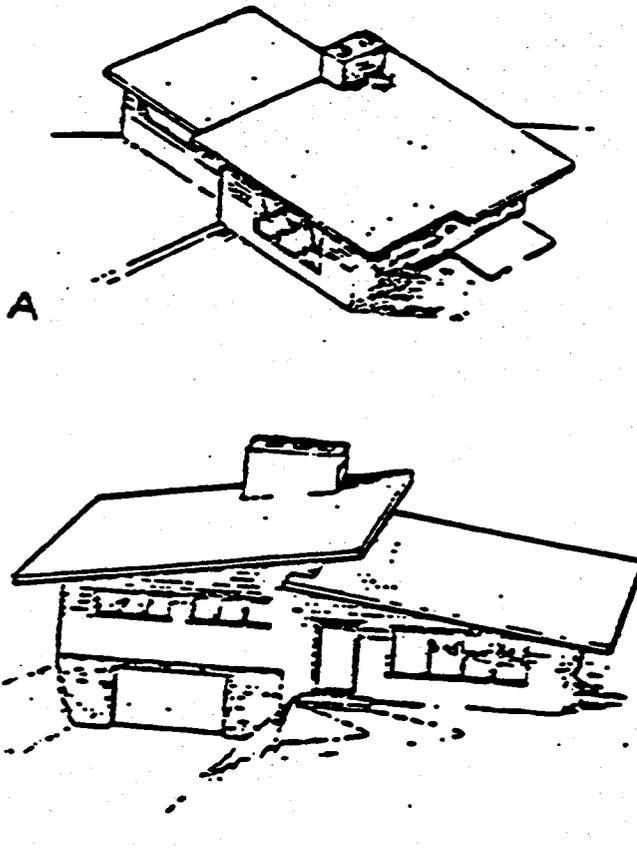

Fig 2-27. A, flat roof; B, double low-pitched (shed) roof.
a. Flat or low-pitched roofs, usually known as shed roofs, can take a number of forms, two of which are shown in figure 2-27.